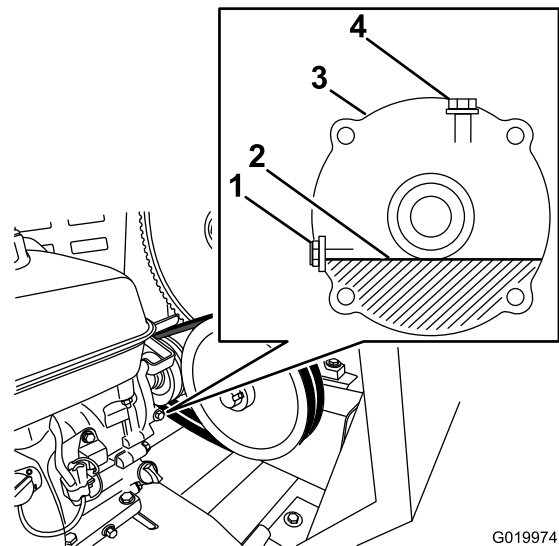

Figure 61
5. Locate the reduction case between the engine and the engine pulley (Figure 61).
7. Remove the oil-level-check bolt and washer from the oil-level port (Figure 61).
- A. Remove the filler bolt and washer from the filler port on the top of the reduction case (Figure 61).
- C. Install the filler bolt and the washer to the filler port of the reduction case, and tighten the filler bolt (Figure 61).
8. When the oil level is flush with the threads at the bottom of the oil-level port, install the oil-level-check bolt and washer to the port, and tighten the bolt (Figure 61).
11. Slowly pour the specified oil into the fill port until the oil level is level with the threads at the bottom of the oil-level port (Figure 61).